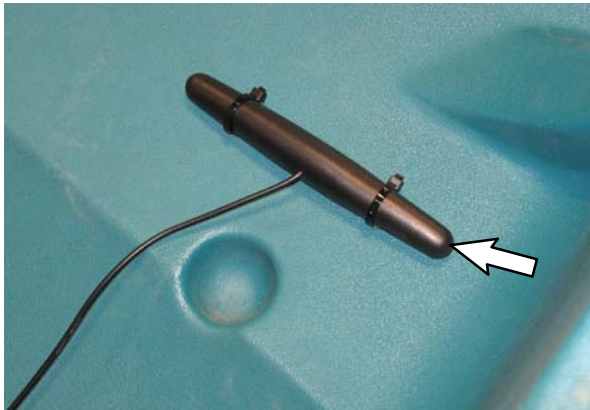

FIG. 12
11. Use the cable ties (6) to secure the antenna (7) to the front shroud. (Fig. 12)